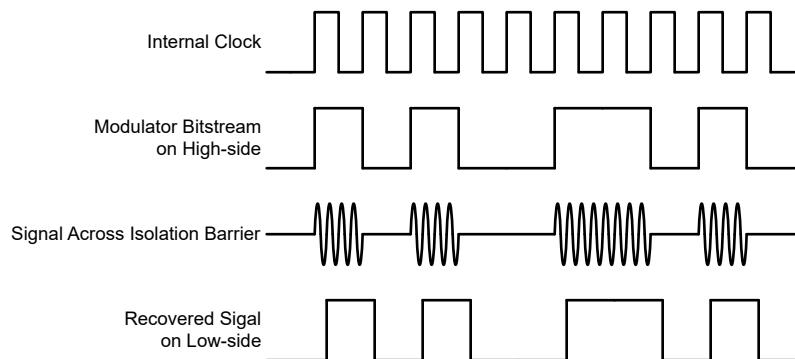

Figure 7-1. OOK-Based Modulation Scheme
As shown in Figure 7-1, the AMC0x02D uses an on-off keying (OOK) modulation scheme to transmit the modulator output bitstream across the SiO_2 -based isolation barrier. The transmit driver (TX) is illustrated in the *Functional Block Diagram*. TX transmits an internally generated, high-frequency carrier across the isolation barrier to represent a digital one. However, TX does not send a signal to represent a digital zero. The nominal frequency of the carrier used inside the AMC0x02D is 480MHz.